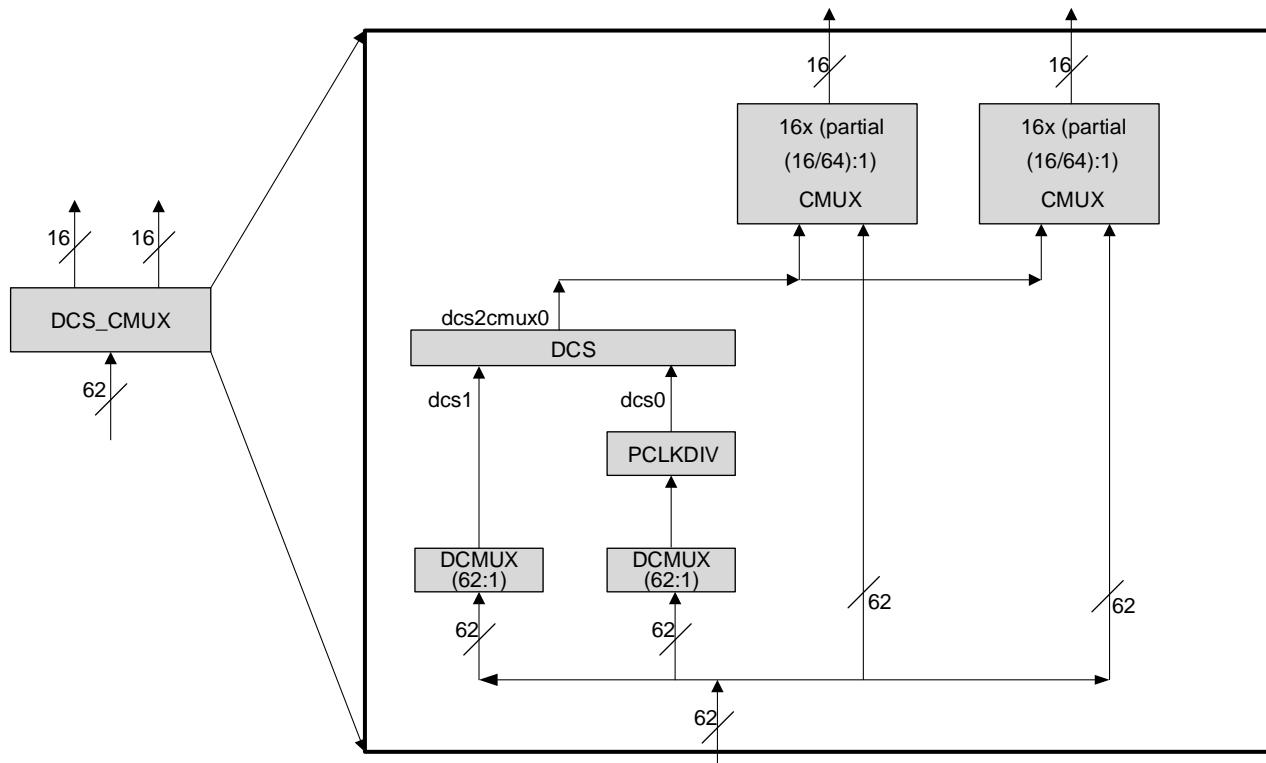

Figure 2.8. DCS_CMUX Diagram
The PCLKDIV supports $\div 2$, $\div 4$, $\div 8$, $\div 16$, $\div 32$, $\div 64$, $\div 128$, and $\div 1$ (bypass) operation. The PCLKDIV is fed from a DCSMUX within the DCS_CMUX block. The clock divider output drives one input of the DCS Dynamic Clock Select within the DCS_CMUX block. The Reset (RST) control signal is asynchronous and forces all outputs to low. The divider output starts at next cycle after the reset is synchronously released. The PCLKDIV is shown in context in Figure 2.8.
All clock sources are selected and combined for primary clock routing through the Dynamic Clock Selector Center Multiplexer logic (DCS_CMUX). There are one (1) or two (2) DCS_CMUX blocks per device. Each DCS_CMUX block contains 2 DCSMUX blocks, 1 PCLKDIV, 1 DCS block, and 1 or 2 CMUX blocks. See Figure 2.8 for a representative DCS_CMUX block diagram.